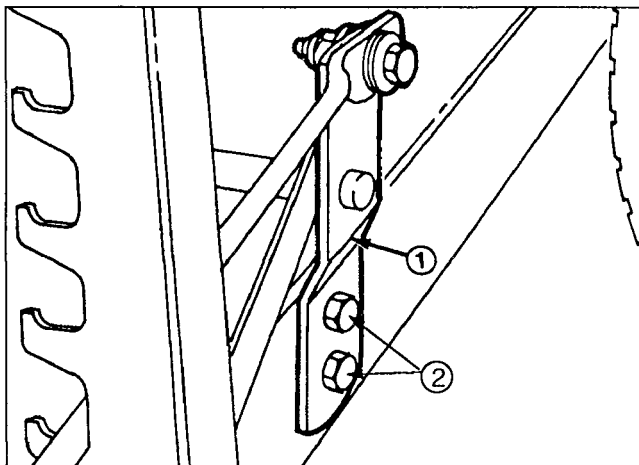

Figure 30
5. If blade tip height is not within 1/8 inch (3 mm), level cutting unit by loosening height-of-cut support bracket capscrews and raising or lowering the bracket (Fig. 30).